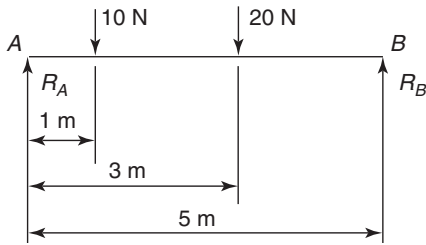

Figure 5.34
- With reference to Figure 5.34, the clockwise moment about A is:
4. The force acting at  $B$  (i.e.  $R_B$ ) in Figure 5.34 is:
5. The force acting at  $A$  (i.e.  $R_A$ ) in Figure 5.34 is: